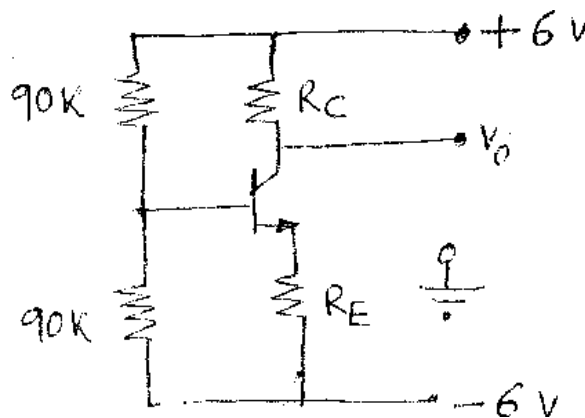

Fig. 1
1. A) The circuit in fig. 1 uses a silicon transistor with current gain (β) 200 & $V_{CEQ} = 3V$. For the output voltage (V_o) to be zero
- ii) With reference to the values in part (1) above, find the new value of V_o if β is 100. 4